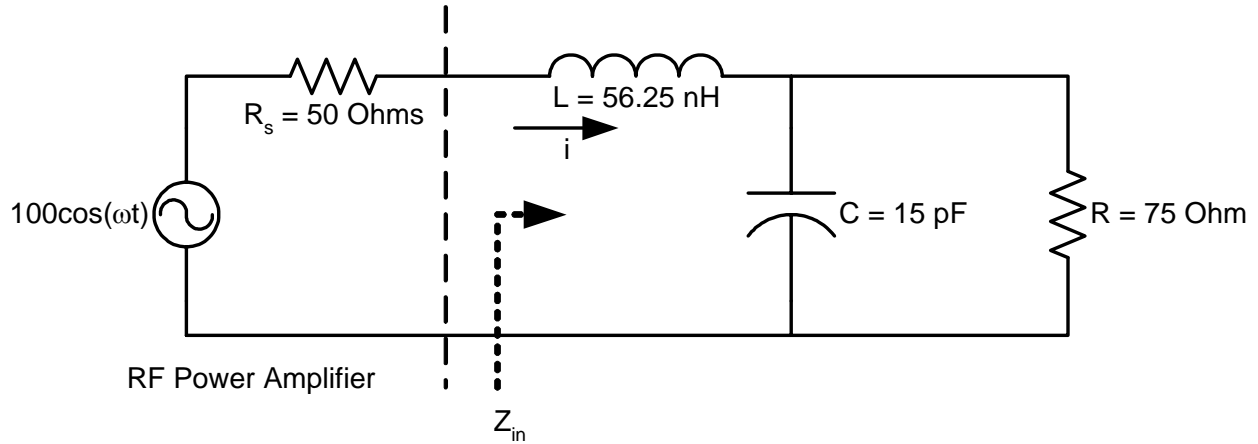

Figure 2
- c. Design a different L-section (2 component) matching network that will match the RF power amplifier to the load *at an operating frequency of 100 MHz*. Specify the component values to be used. (*Hint: use a "high-pass" L-section, rather than the "low-pass" L-section that is shown in Fig. 2.*)